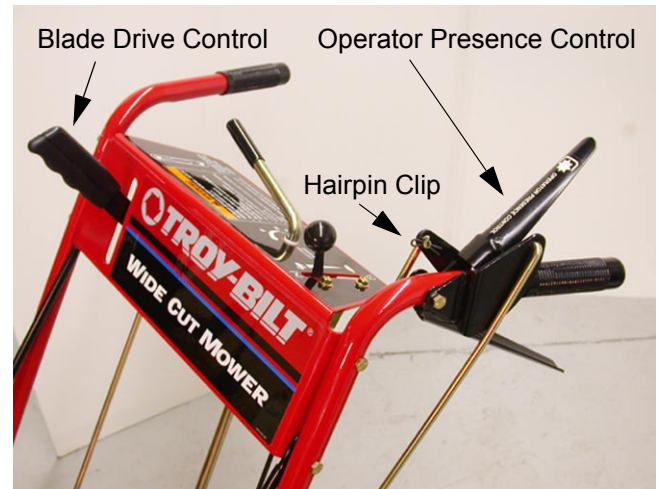

Figure 12
- 4.1. With the engine off, engage the operator presence control and the blade drive control. See Figure 12.